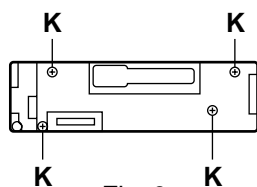

Fig. 6
■ Removing the front panel unit (see Fig.6)